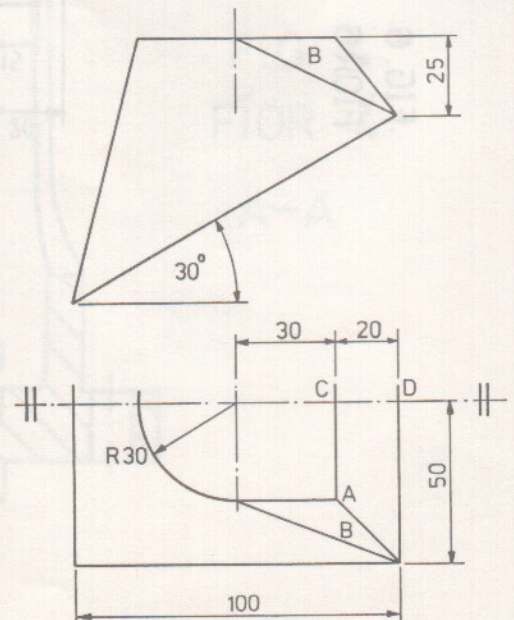

FIG. 2.
2. The elevation and half plan of a sheetmetal transition piece are shown in Fig. 2.